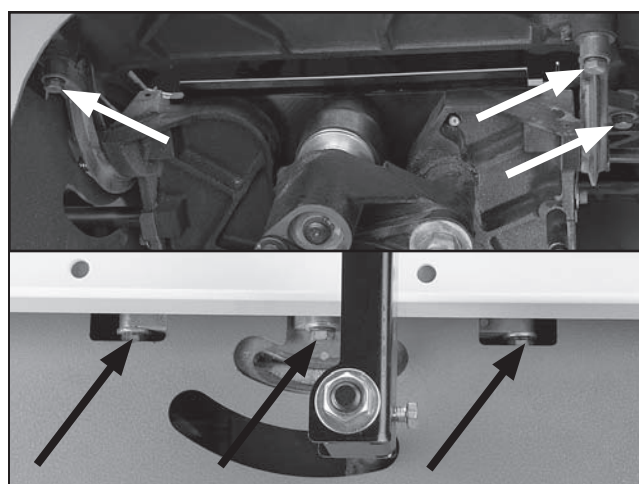

Figure 57. Trunnion bolt locations (not all the trunnion bolts are shown).
7. Loosen the trunnion bolts shown in **Figure 57**.
1. Loosen the trunnion bolts (**Figure 57**).